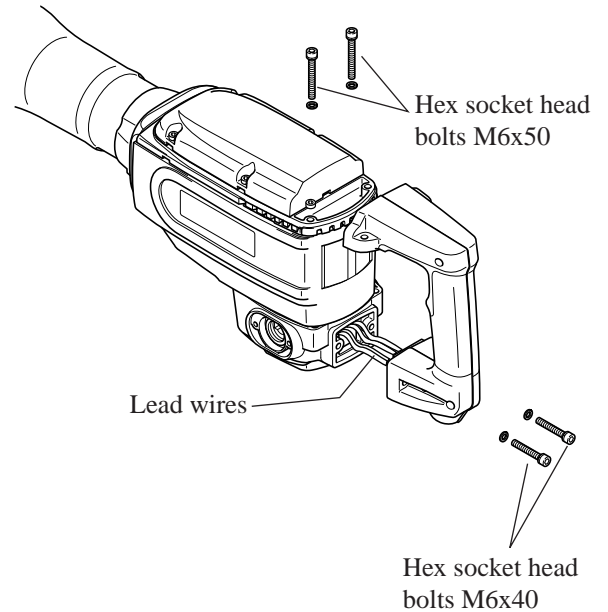

Fig. 3
- (2) Remove handle set from crank housing by unscrewing hex socket head bolts M6x50 and M6x40. However, the handle set can not be separated completely from motor housing in this step, because it is still connected with lead wires. See Fig. 3.